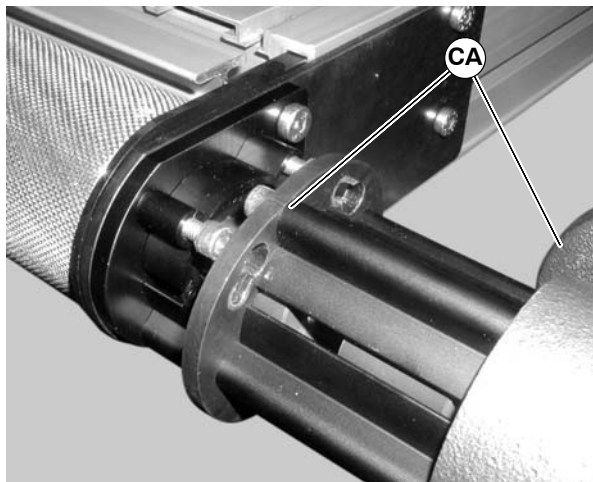

Figure 64
- 3) Rotate and remove the gear motor and guard assembly (CA of Figure 64).